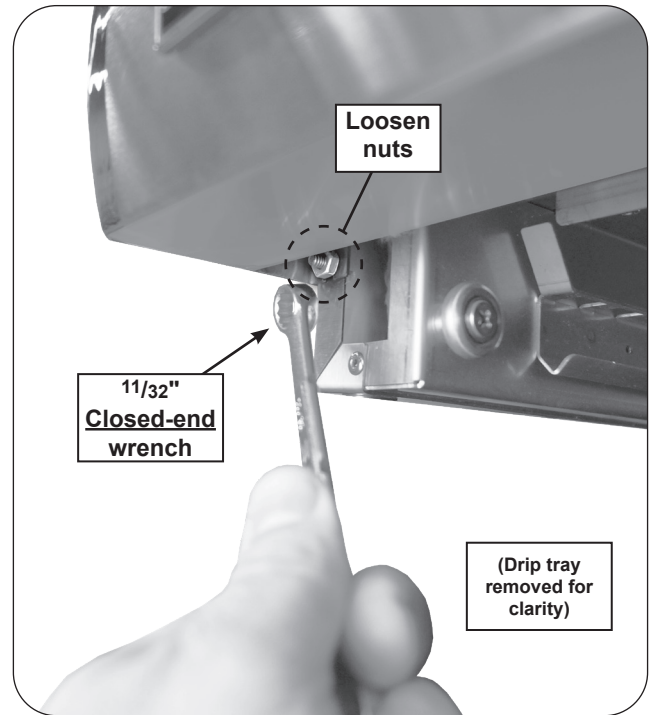

Fig. 42-1 Remove control panel
3. Loosen the nuts underneath the left and right sides of the control panel with a 11/32" wrench (see Fig. 42-1), then lift the panel until it is freed from the screws. Carefully rest the bottom of the control panel on the drip tray. The top of the control panel is supported by the internal chains.